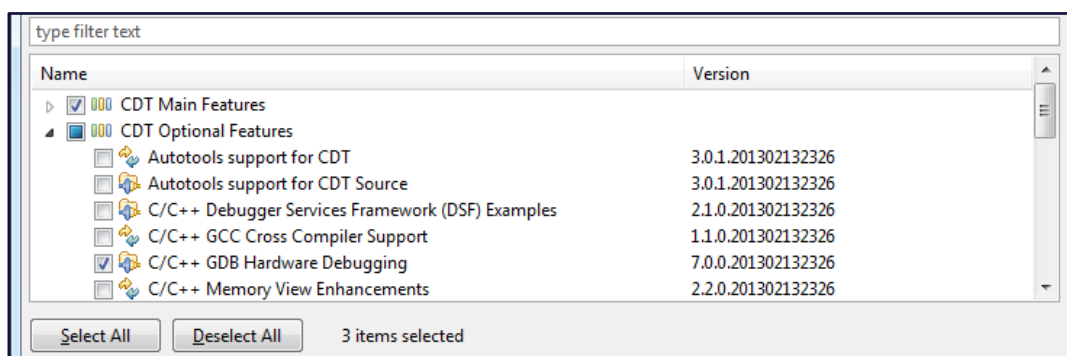

Figure 6: New software selected
3. Check CDT Main Features and GDB Hardware Debugging (Figure 6).